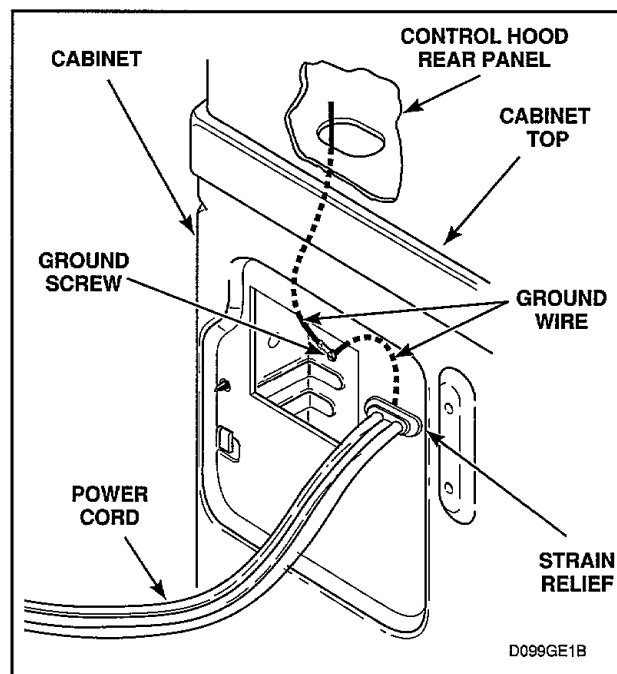

Figure 47
- (1) Remove access plate on rear of cabinet.
- (2) Remove strain relief, *Figure 47*.
- (3) Remove screw holding power cord ground wire to rear bulkhead, *Figure 47*.
- (4) Disconnect mox plug and remove power cord from rear of dryer cabinet.